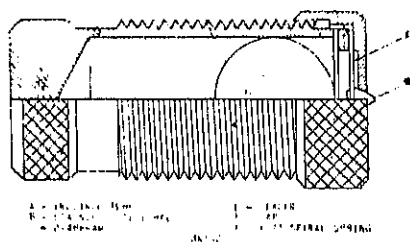

Fig. 15 (8077000-3) Barrel Contact Assembly For Directional Unit And Instantaneous Overcurrent Unit.
The directional unit contacts (right rear) which control the instantaneous overcurrent unit, are shown in Figure 15. They are specially constructed to suppress bouncing. The stationary contact (G) mounted on a flat spiral spring (F) backed up by a slightly inclined tube (A). A stainless steel ball (B)